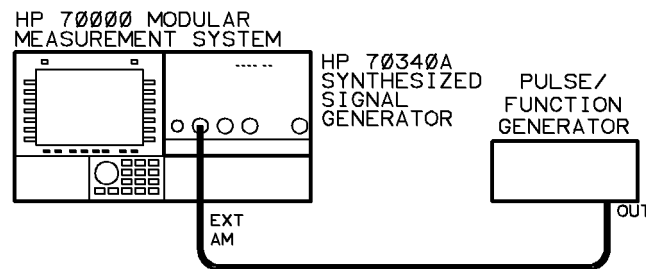

Figure 3-2. Log AM Equipment Setup
1. Connect the equipment as shown in Figure 3-2.